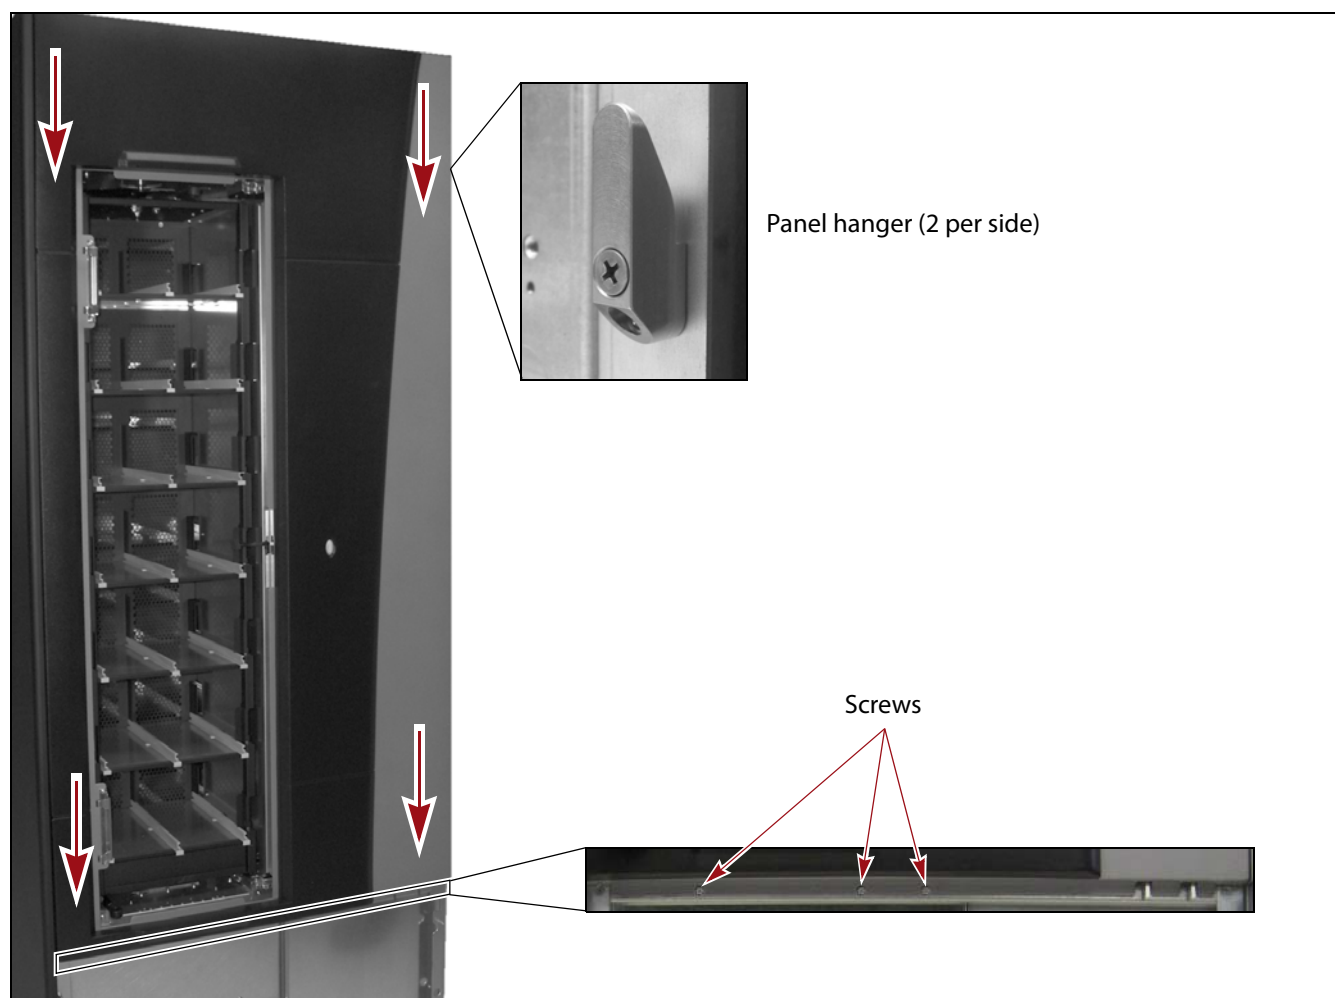

Figure 66 Slide the front panel down to engage the hangers and then install the screws at the bottom.
3. Using a #2 Phillips screwdriver, install the three screws that secure the bottom of the cover to the frame (see Figure 66).